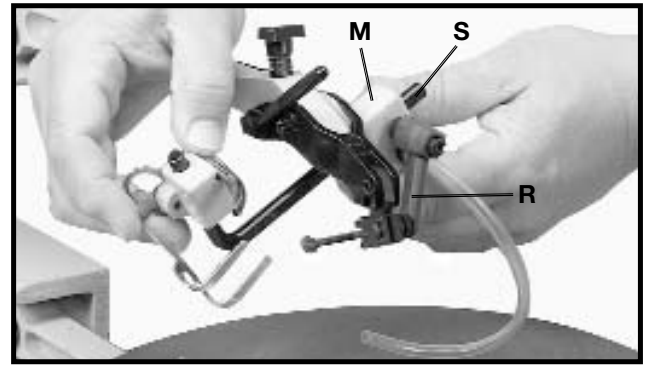

Fig. 12
10. Rotate bracket (M), to the position shown in Fig. 12.
12. Loosen lock handle (R) and insert holddown rod (S) into hole in bracket (M), as shown.